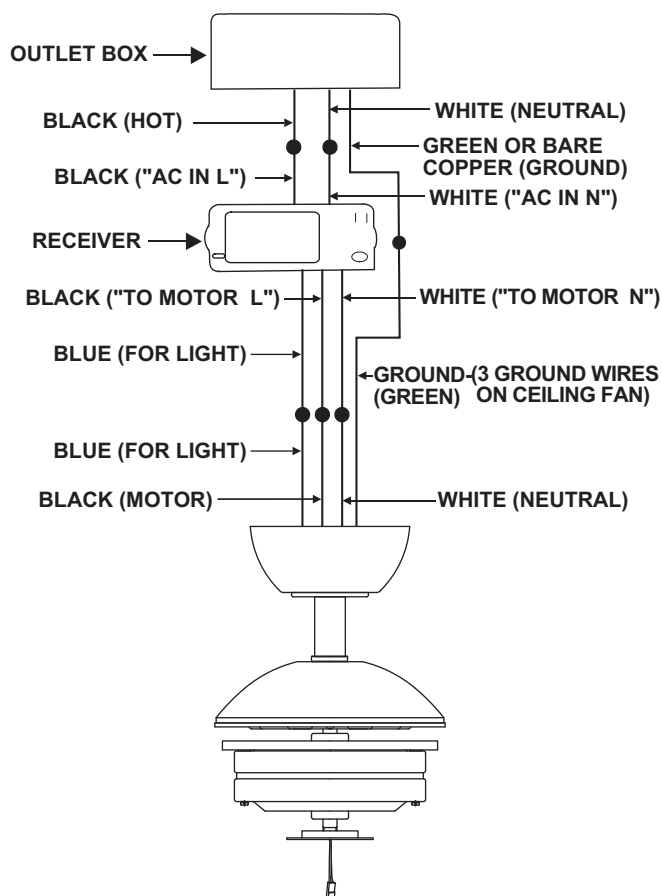

Figure 13
2. Motor to Receiver Electrical Connections: Connect the WHITE wire from the fan to the WHITE wire marked "TO MOTOR N" from the Receiver. Connect the BLACK wire from the fan to the BLACK wire marked "TO MOTOR L" from the Receiver. Proceed to secure all wire connections with the plastic wire nuts provided. Connect the BLUE wire from the fan to the BLUE wire marked "For Light" from the receiver. Proceed to secure all wire connections with the plastic wire nuts provided. (Fig. 13)
3. Receiver to House Supply Wires Electrical Connections: Connect the WHITE wire (Neutral) from the outlet box to the WHITE wire marked "AC in N" from the receiver. Connect the BLACK wire (Hot) from the outlet box to the BLACK wire marked "AC in L" from the receiver. Secure all wire connections with the plastic wire nuts provided. (Fig. 13)
4. If your outlet box has a GROUND wire (Green or Bare Copper) connect this wire to the Hanger Ball and Hanger Bracket Ground wires. If your outlet box does not have a Ground Wire, then connect the Hanger Ball and Hanger Bracket Ground Wires together. Secure wire connection with the plastic wire nut provided. (Fig. 13)